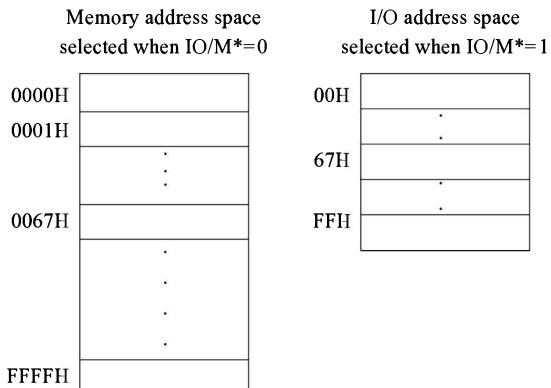

Fig. 12.6
2. Some microprocessors have a control pin to select a memory location or an I/O port. For example, in 8085, IO/M* pin is used to select an I/O port or a memory location. The address sent out on the address pins selects an I/O port or a memory location based on the value sent out on IO/M*. In other words, there are two separate address spaces—one for I/O ports and another for memory, as shown in Fig. 12.6.